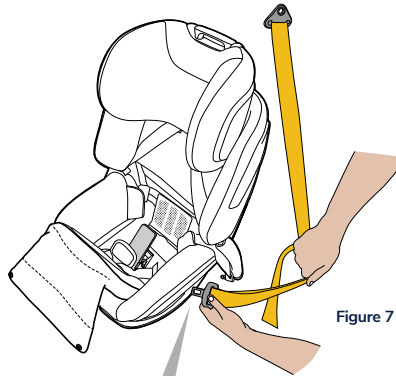

Figure 7
Step 1. Fully lengthen the seatbelt and thread through the yellow forward facing belt path opening at the side of seat (Figure 7).